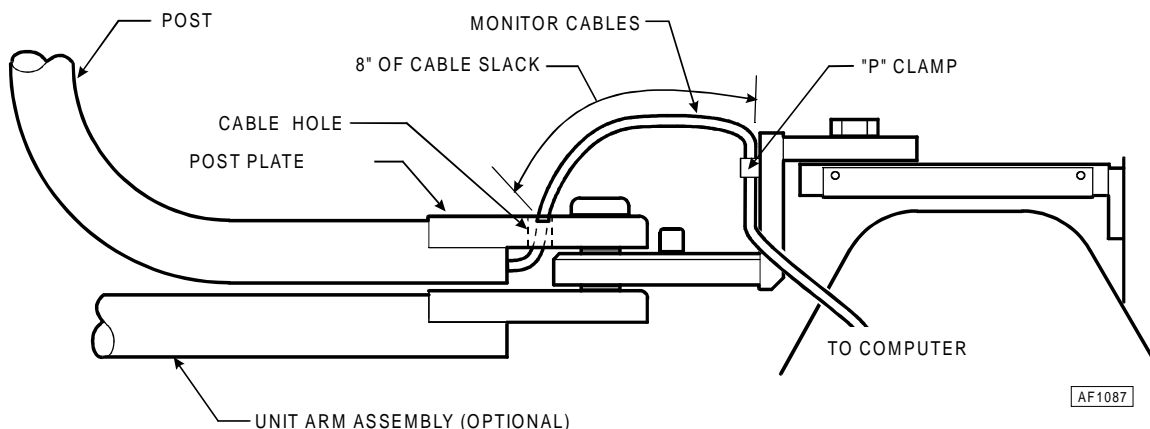

Figure 4
6. Insert the cable ends up through the cable hole in the post plate (See Figure 4).